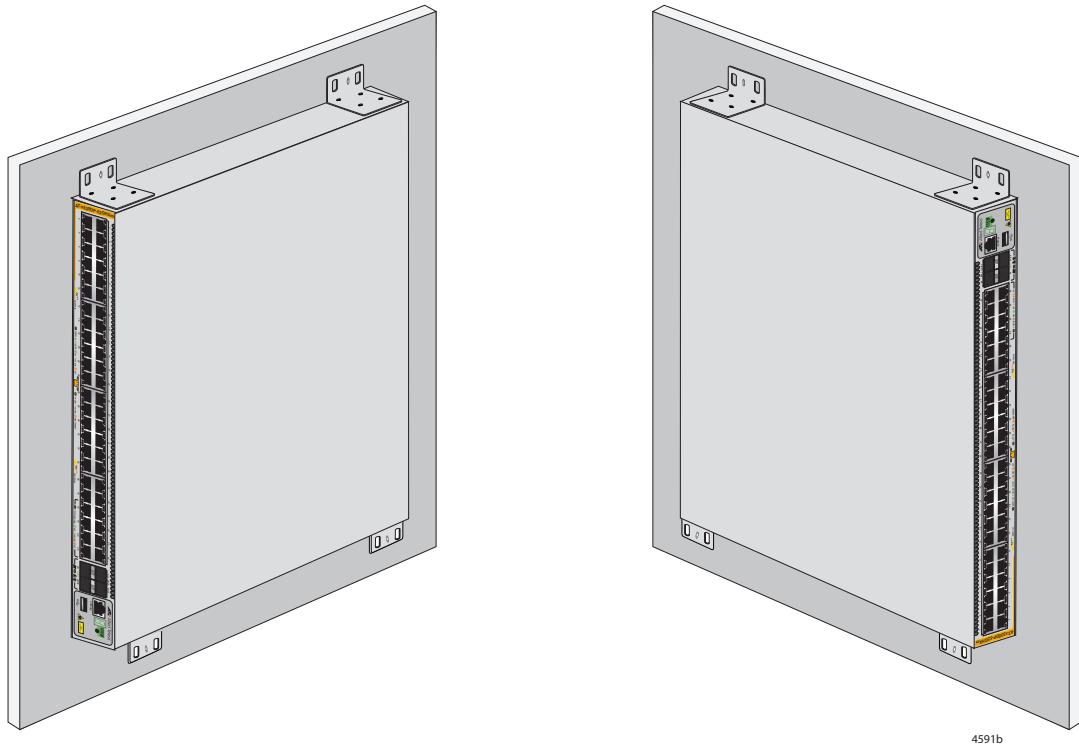

Figure 5. Positioning the Switch on the Wall
Install the switch on a wall with the front panel facing left or right, as shown in Figure 5. Do not install the switch with the front panel facing up or down.
- Position it so that the front panel is facing left or right. Refer to Figure 5 on page 80. Do not install the switch with the front panel facing up or down.